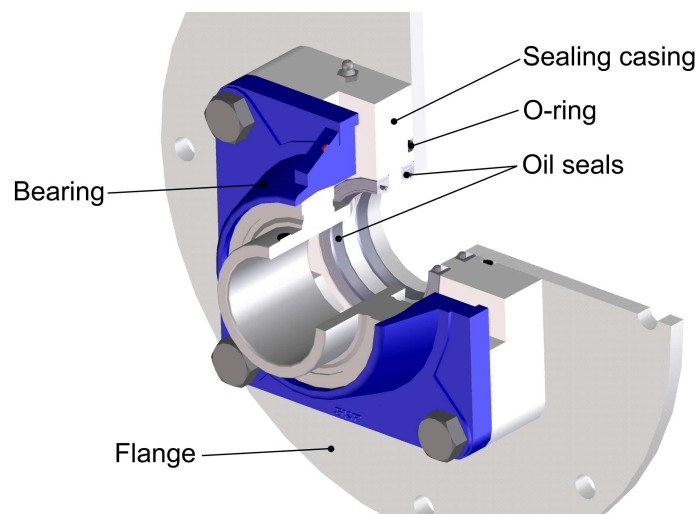

Figure 5.1: Reversed air seal
4. Place the new oil seals by carefully tapping them into the housing with a hammer. Take care not to place the oil seal crookedly in the housing. Ensure that the oil seals are positioned in the right way. The two oil seals should be placed with the 'open' side towards the product side (see figure 5.1).